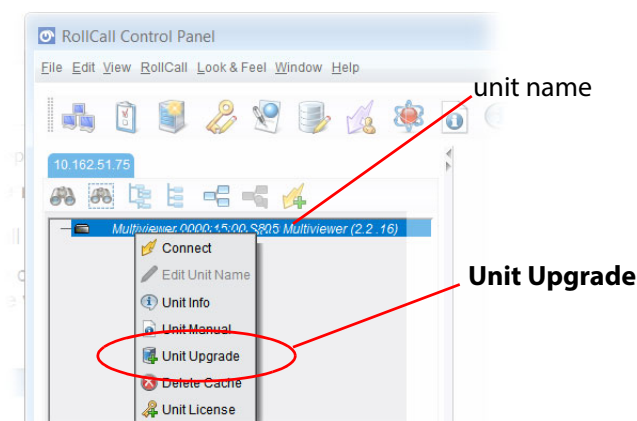

Fig. 11-8: Right-Click Menu
- 1 Right-click on the connected unit name in the RollCall Control Panel window. See Figure 11-8.